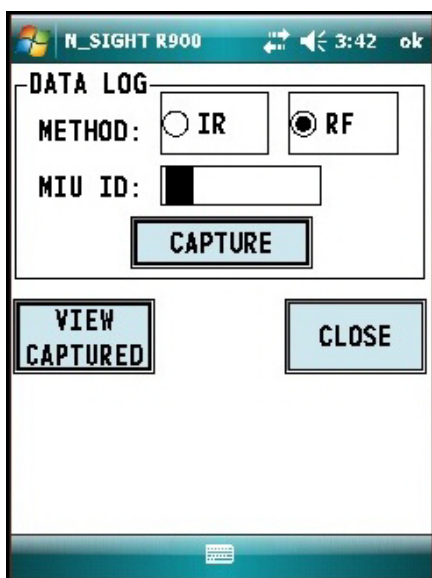

Figure 52 Enter MIU ID Entry
- 3 Select **RF** and type the MIU ID. See Figure 52.